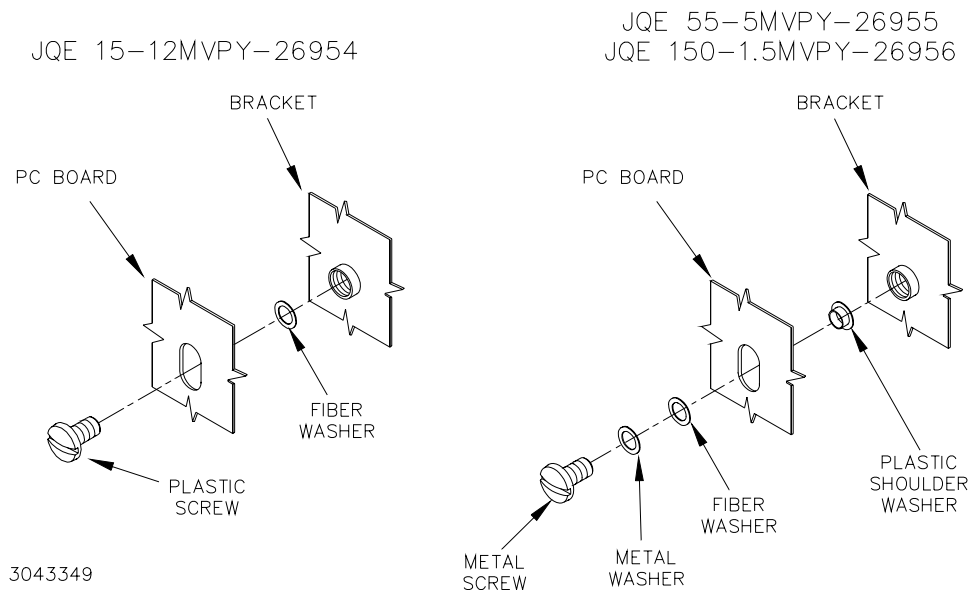

FIGURE 6-1. A1 PC BOARD, REASSEMBLY
6.2 DISASSEMBLY/REASSEMBLY (REFER TO FIGURE 6-1.)
The A1 printed circuit board is mounted with two (2) screws and either two (2) or six (6) washers as shown in Figure 6-1, which are removed from the side. Set aside hardware for reassembly. After removal of the four printed circuit board edge connectors and 3-wire cables from A1J1 and A1J2, the board may be lifted from its slide-guide.
REASSEMBLY NOTES: A1 circuit board is floating; be sure to reassemble the hardware as shown in Figure 6-1 to maintain electrical isolation from the bracket and avoid inadvertent shorts.
Remove the two holding screws as indicated (Refer to Figure 6-1). Separate the edge connector at the bottom and lift the circuit board and bracket assembly out of the chassis. Disconnect the 2-wire cables from A4J1 and A4J2 and the wires from Quick-disconnect connectors A4J4 and A4J5. The circuit board can be separated from the bracket by removing two nuts and washers.